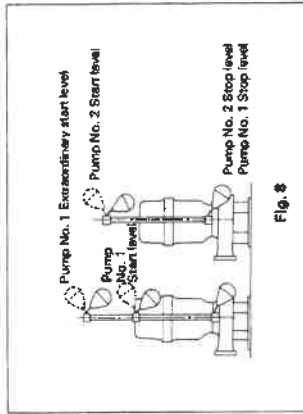

Fig. 8
- Check automatic alternate operation of pump No. 1 (DVSJ) and pump No. 2 (DVSA) as follows (see Fig. 8):
- (1) When the water level reaches pump No. 1 start level, pump No. 1 will start and water will be pumped until pump No. 1 stop water level is reached.